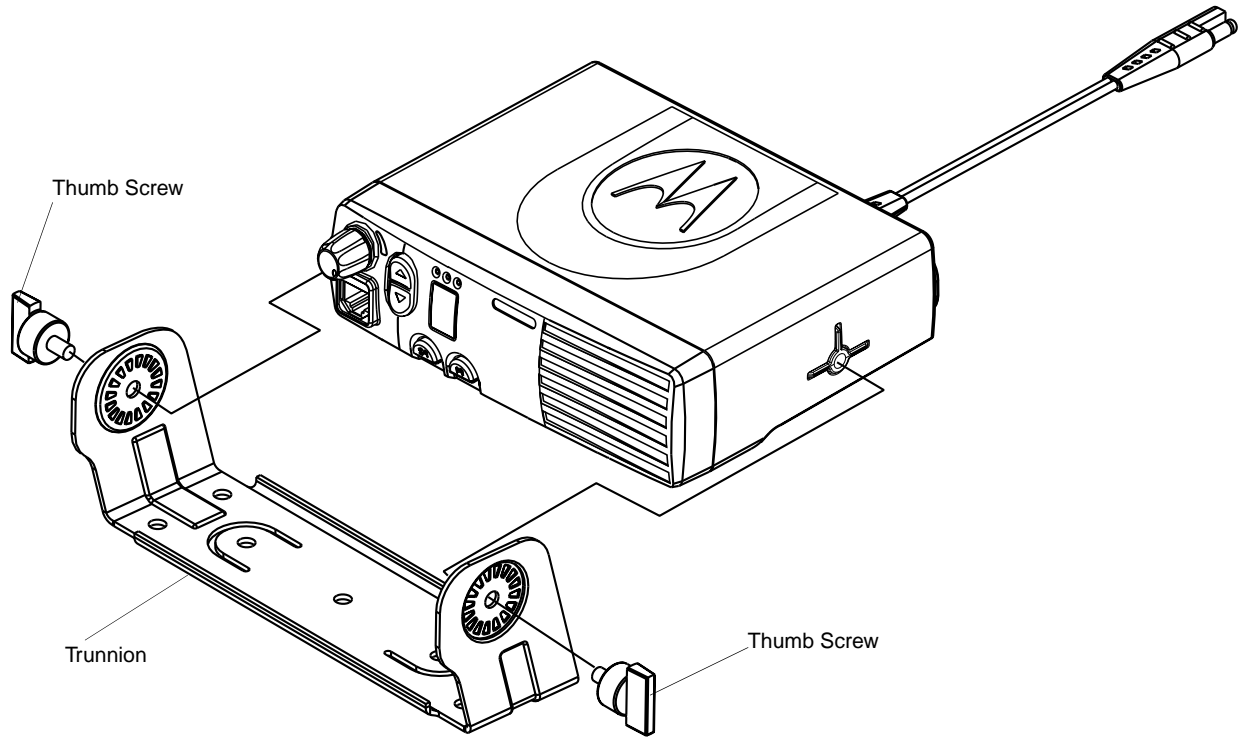

Figure 3-2. Radio into Trunnion
5. Attach the radio to the trunnion mounting bracket using two thumbscrews (Figure 3-2.)